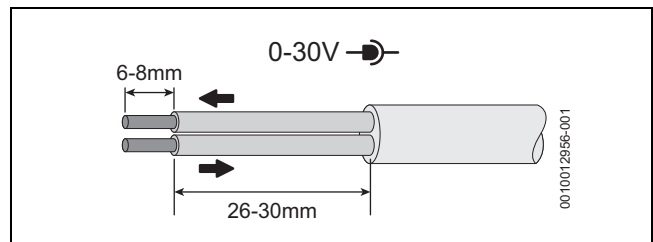

Fig. 61 Low voltage (signal cables) preparation
**Low voltage (signal cables), example → figure 61**